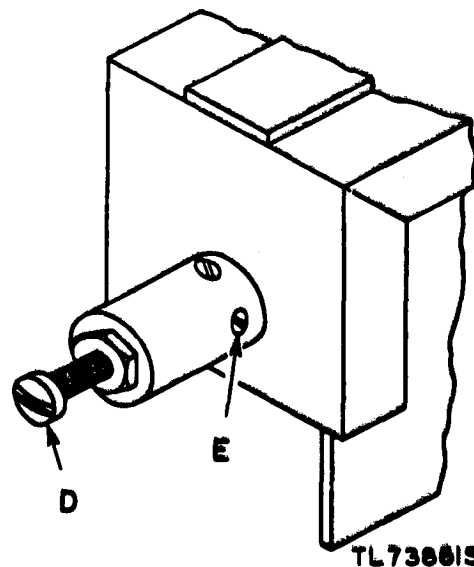

Figure 108. Phase magnet.
j. Phase Magnet (fig. 108). The armature return spring (H) must produce a strong spring action. Replace the spring if the tension is too weak. Pivots (F) and (G) must not cause binds or side play. To adjust the armature backstop (B), set up the transceiver for a receiving test on a phasing signal. Proceed as follows: With the PHASE button depressed, back off the adjusting screw until the armature fails to operate. Screw in the armature back screw until the armature fails to catch the top arm. Return the screw
l. Phase Magnet, Parts Description (fig. 108).